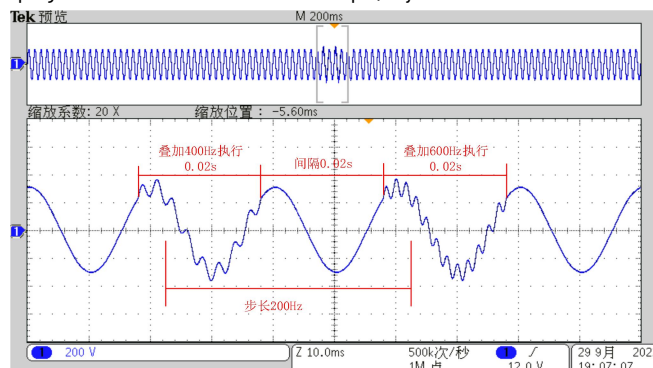

Figure 111 Interharmonics Example Diagram.
- 4) Click 'Trigger' to display the programmed waveform on the oscilloscope (only the ϕ 1 waveform is shown here); see Figure 111.